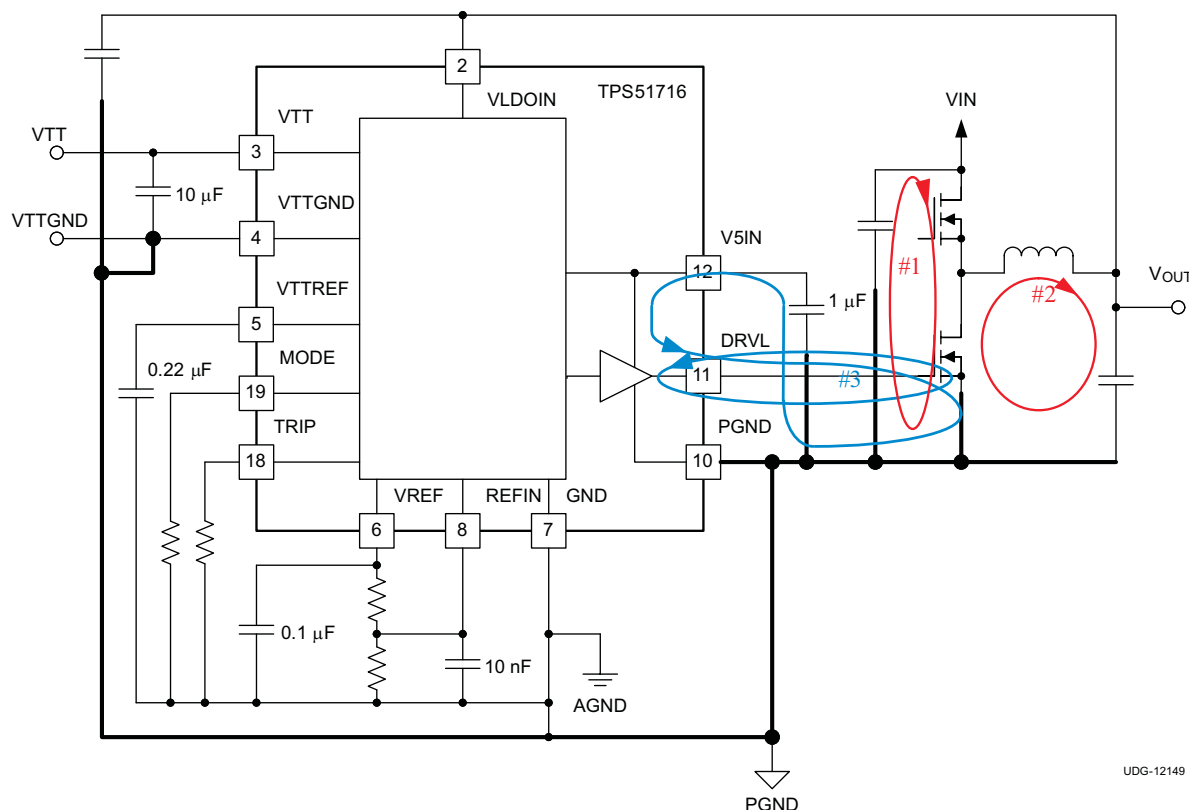

Figure 33. DC/DC Converter Ground System
- The most important loop to minimize the area of is the path from the VIN capacitor(s) through the high and low-side MOSFETs, and back to the negative node of the VIN capacitor(s). Connect the negative node of the VIN capacitor(s) and the source of the low-side MOSFET as close as possible. (Refer to loop #1 of Figure 33)
- The second important loop is the path from the low-side MOSFET through inductor and VOUT capacitor(s), and back to source of the low-side MOSFET. Connect the source of the low-side MOSFET and negative node of VOUT capacitor(s) as close as possible. (Refer to loop #2 of Figure 33)
- The third important loop is of gate driving system for the low-side MOSFET. To turn on the low-side MOSFET, high current flows from V5IN capacitor through gate driver and the low-side MOSFET, and back to negative node of the capacitor. To turn off the low-side MOSFET, high current flows from gate of the low-side MOSFET through the gate driver and PGND pin, and back to source of the low-side MOSFET. Connect negative node of V5IN capacitor, source of the low-side MOSFET and PGND pin as close as possible. (Refer to loop #3 of Figure 33)
- Connect negative nodes of the VTTREF output capacitor, VREF capacitor and REFIN capacitor and bottom-side resistance of VREF voltage-divider to GND pin as close as possible. The negative node of the VTT output capacitor(s), VTTGND, GND and PGND pins should be connected to system GND plane near the device as shown in Figure 33.